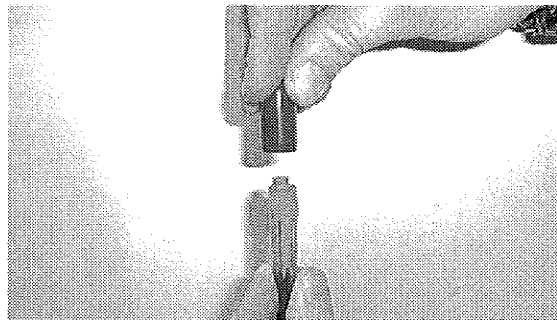

FIG. 1
1. Remove cap from the blue injector tube. Do not misplace cap (Figure 1). Use cap to prevent injector tube from clogging when machine is not in use.